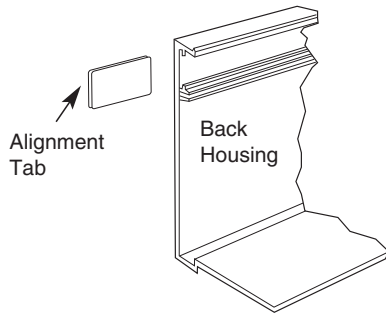

Fig. 5
- Mount the heaters on the wall using screws, bolts or anchors (by installer) which suit the wall construction. Alignment tabs can be inserted in adjoining back housings to assure even alignment. See Fig. 5 for details.